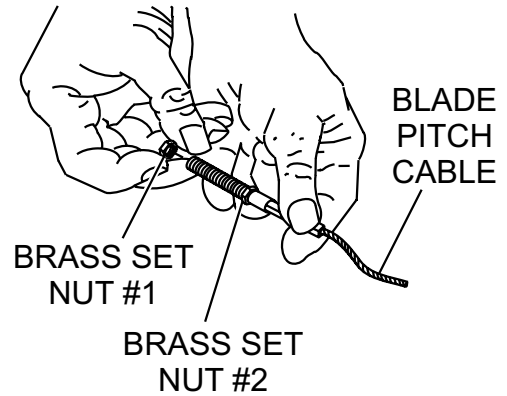

Figure 6. Blade Pitch Cable
2. Remove brass set nut #1 from the blade pitch cable end. See Figure 6.
3. Thread the brass set nut #2 towards the cable as far as possible. See Figure 6.